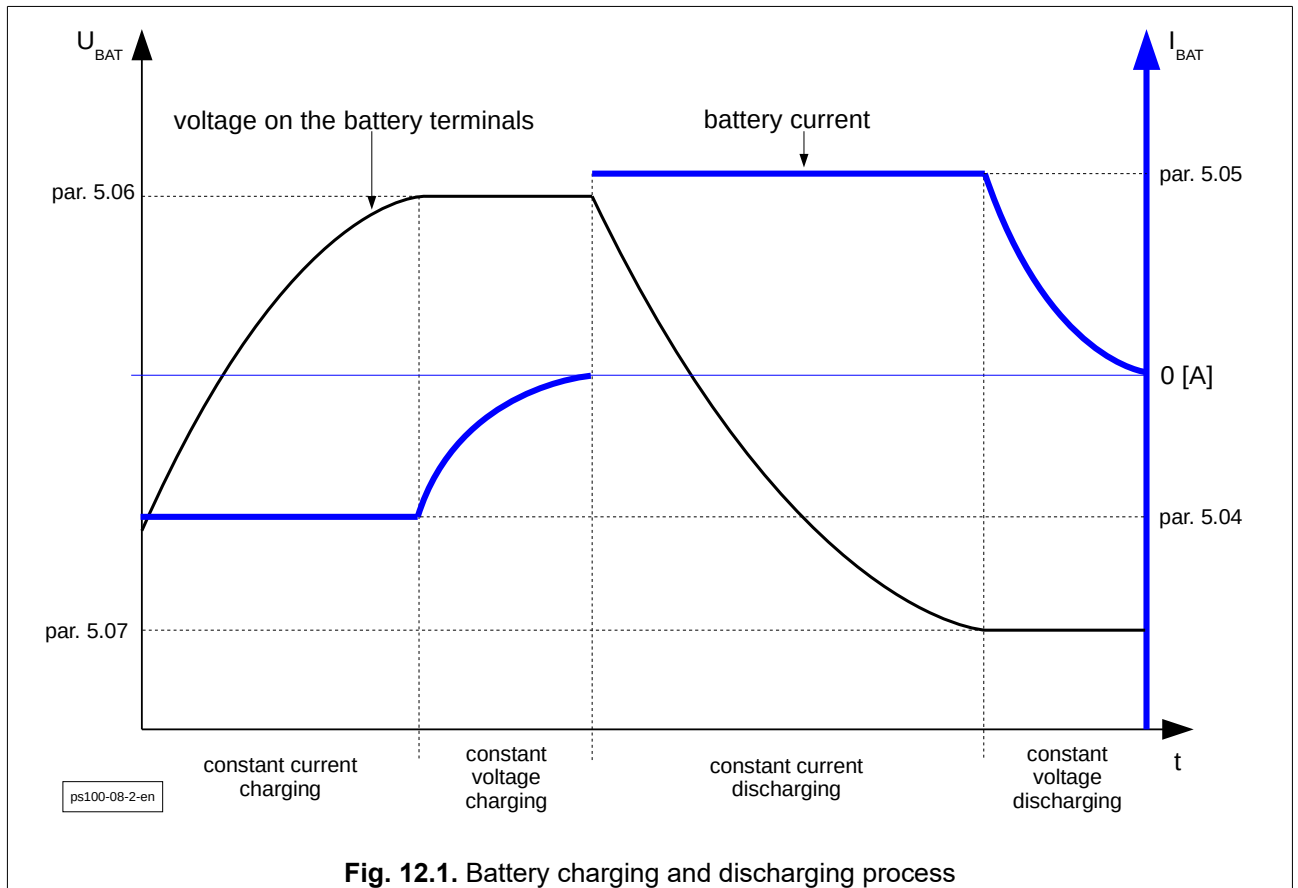

Fig. 12.1. Battery charging and discharging process
3. Charging and discharging of the attached battery takes place in two stages: initially it is work at constant current, then work at constant voltage. The process of charging and discharging the battery is shown in Fig. 12.1. It also indicates the parameters determining the maximum battery charging and discharging current and voltage thresholds at their terminals.
1. It was assumed that during the battery charging process the current value is negative. This is shown in Fig. 12.1, where during the charging process the current curve is below 0A. Also on the display, in the parameter 0.41 a negative value of the charger current means the battery charging process, and a positive value means the discharge process.